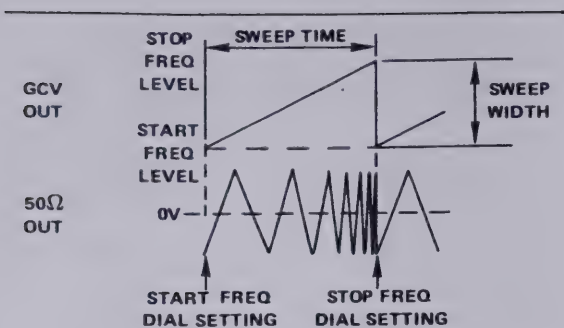

Figure 3-2. Effect of Sweep Time and Width on Output Frequency
This dial is used in sweep mode only. Frequency settings of the STOP FREQ dial multiplied by frequency range ⑮ determines the frequency at which sweep is stopped. (See figure 3-2.) Setting this dial for values greater than the START FREQ dial ② settings define upward sweeping frequencies, and setting it for lower values than start frequency settings define downward sweeps.
Frequency of the internal sweep ramp, and thus, the sweep repetition rate, is governed by the SWEEP TIME control (see figure 3-2). The large knob, when rotated to a detent line, determines the range controlled by the VARIABLE knob. The range values are shown on either side of the detent line. In OFF position, the ramp generator is turned off.
The internal sweep generator ramp is available at the SWP OUT connector. Ramp frequency is varied by the SWEEP TIME control. (See figure 3-2.) Output is a 0 to +5V ramp, 600Ω source impedance.